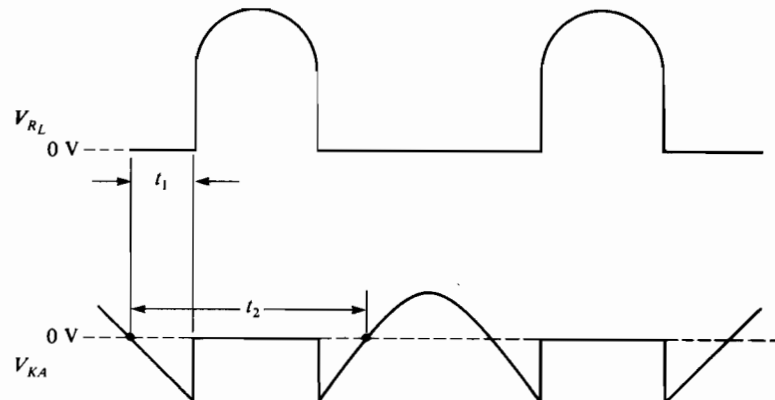

FIGURE 28-4
11. Change the oscilloscope's time base to 1 ms/division. Using the voltage waveforms shown in Figure 28-4 as a guide, measure the SCR's conduction angle for various settings of the 5-k Ω potentiometer. Based on the time divisions in Figure 28-4, the SCR's conduction angle (α) in degrees is computed as